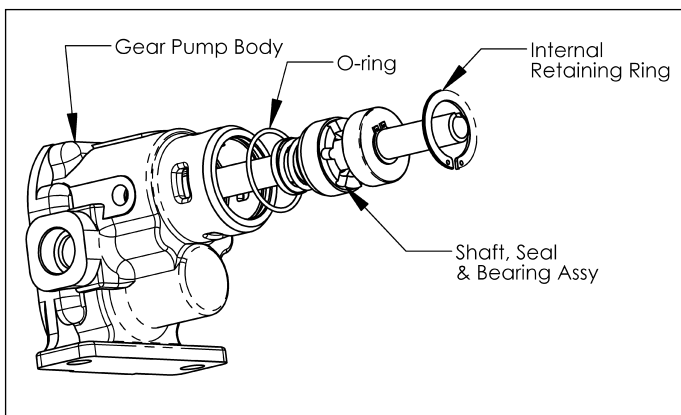
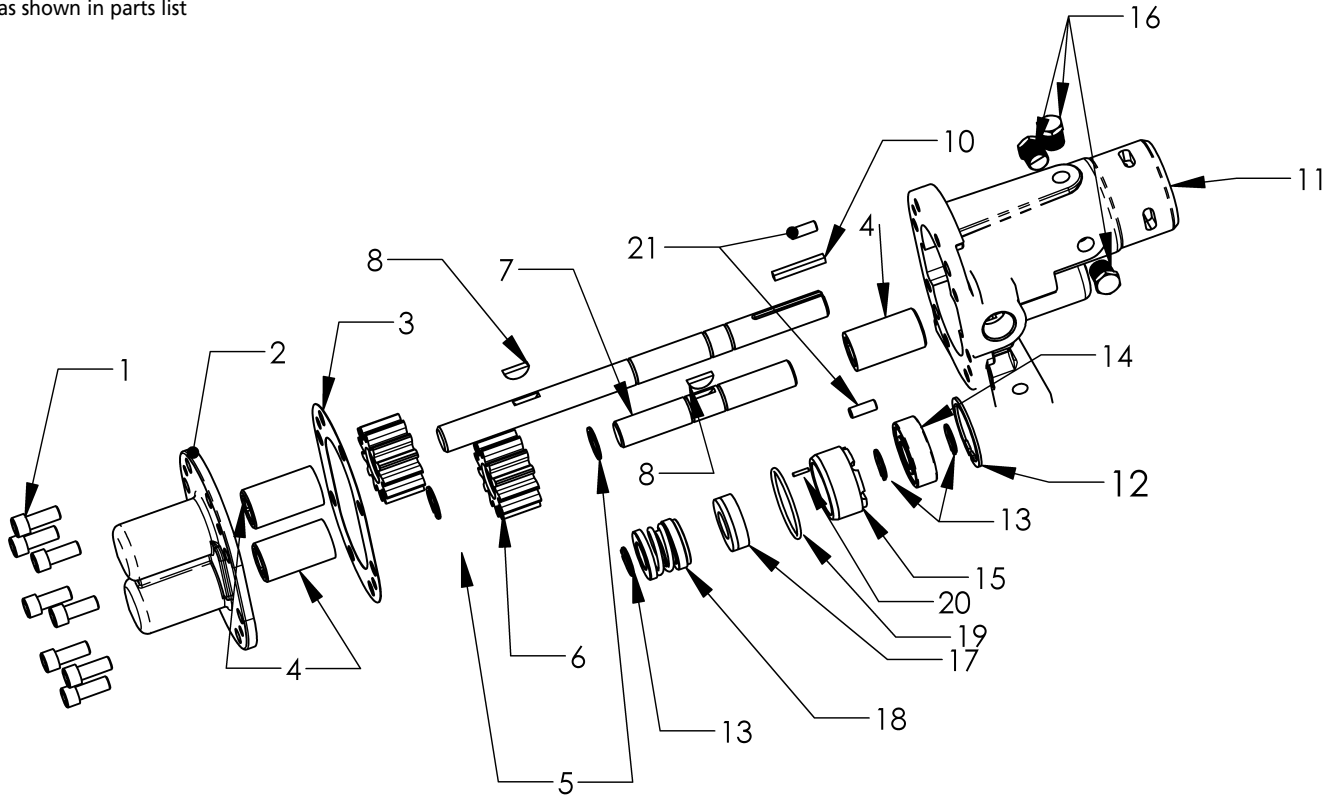

Figure 6 - Shaft, Seal and Bearing Assembly
Figure 11 – Repair Parts Illustration
(Refer to Figure 11 for Reference Numbers and Figures 6, 7, 8 & 9 for detailed seal and shaft assemblies.)
2. From the drive shaft end of the gear pump, remove the internal snap ring (Ref. No. 12) from the body (Ref. No. 11). The drive assembly, which consists of the drive shaft (Ref. No. 9), seal assembly (Ref. Nos. 17 & 18), seat retainer (Ref. No. 15), bearing (Ref. No. 14) and retaining rings (Ref. No. 13), can now be removed from the unit (See Figure 6). Also remove the internal o-ring (Ref. No. 19) from the body.
- a. Slide the seal retainer and bearing onto the drive shaft and install retaining ring, holding the bearing and seal onto the shaft (See Figures 6 and 7).
- b. Slide the drive shaft assembly (Ref. Nos. 9, 13, 14, 15, 17 & 18) into the gear pump and secure with the internal retaining ring (Ref. No. 12). (Also see Figure 6.)